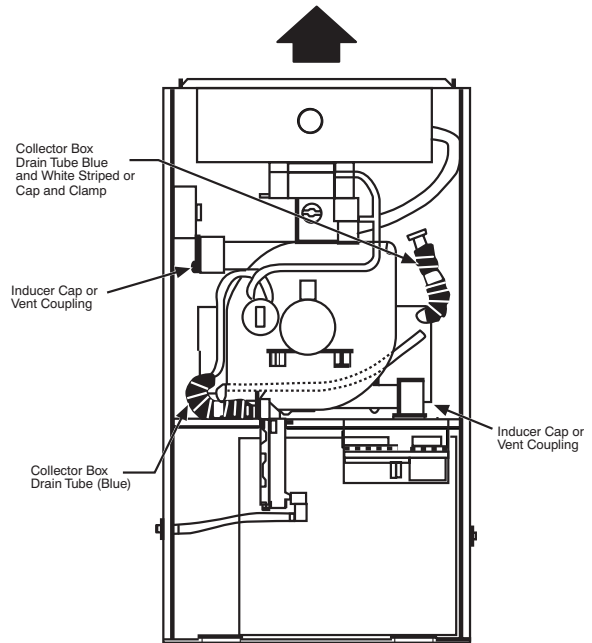

Fig. 1 - Rubber Parts Replacement Kit
**NOTE:** Fig. 1 shows a typical upflow installation. Units in other configurations will look different; however, the parts that need to be replaced will be in the same relative location inside the unit.
2. Replace the rubber parts listed in Table 2 in the furnace. Refer to Fig. 1 for part location.